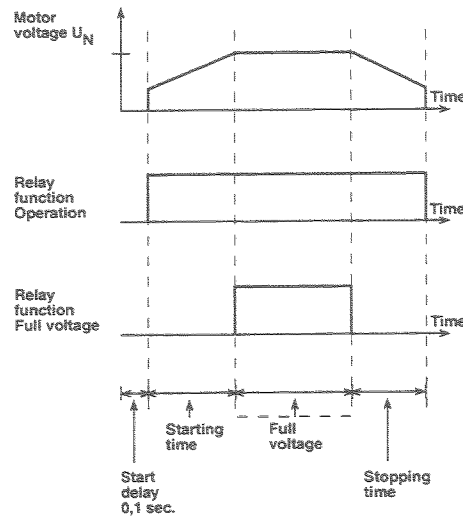

Fig. 5 Start/stop sequence and relay functions.
The device is started and stopped as shown in Fig. 5.
- The relay K1 is used for indication of operation. K1 closes before start-up and is activated by the external contact, terminal 12-13 or start command from keyboard (see Fig. 5). Normally used for controlling the motor contactor.